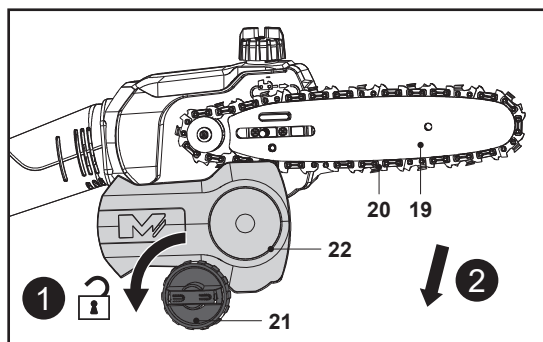

Fig. 5
1. Place the product on a suitable flat surface with the chain saw cover (22) facing forwards.
2. Unscrew the locking wheel (21) anticlockwise and then remove it together with the chain saw cover (22), the guide bar (19) and the saw chain (20) (Fig. 5).